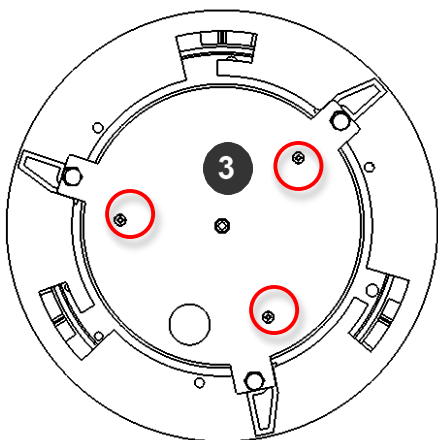

Figure 6: Attach Top Plate to in-ceiling mount with 3 set screws
4. Attach Top Plate to in-ceiling mount with other 3 set screws as shown in Figure 6.